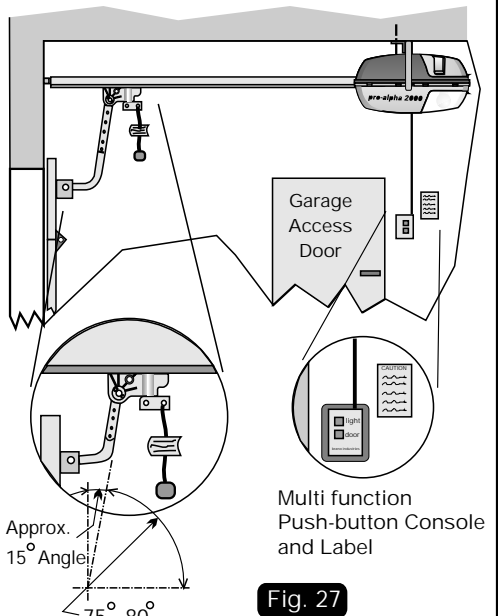

Fig. 27
4.8.1 Use both the "L" Shaped Towing Arm and the Straight Towing Arm to couple the door to the traveller as shown in Fig 27. The "L" Arm is attached to the door whilst the Straight Arm is connected to the Traveller as shown.